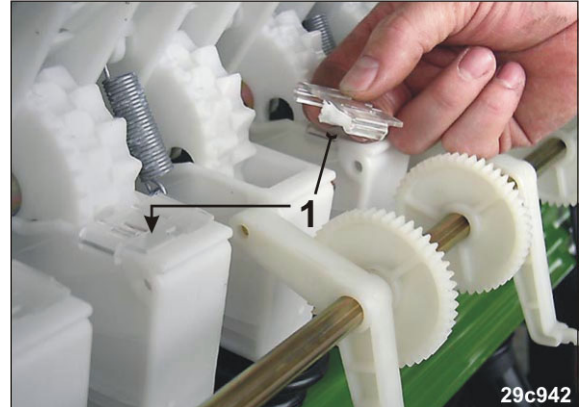

Fig. 224
2. Mark new tramline seed metering wheels by inserting the fine seed metering wheel brushes (Fig. 224/1) onto the new tramline seed housings.